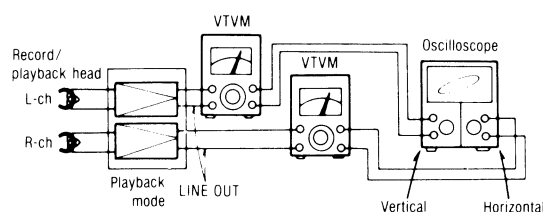

Fig. 8
- Make connections as shown in fig. 8.